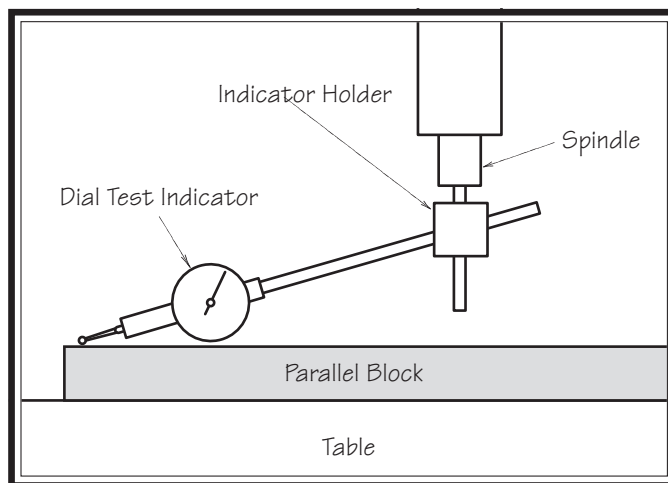

Figure 31. Dial test indicator mounted.
4. Install the indicator holder into the spindle or onto the quill, then mount the indicator onto it so that the point is as parallel to the block as possible (see the illustration in **Figure 31** for an example).